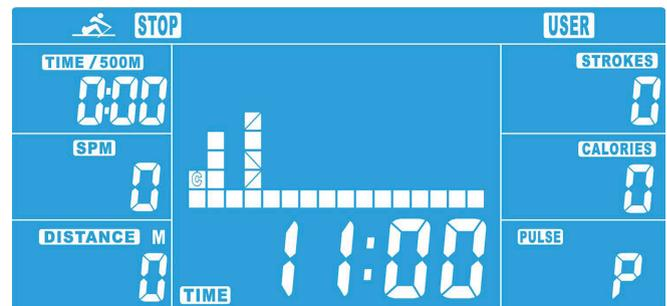

figure 16
3. Press the UP or DOWN button to set a value for TIME (fig. 16). Confirm with the ENTER button.